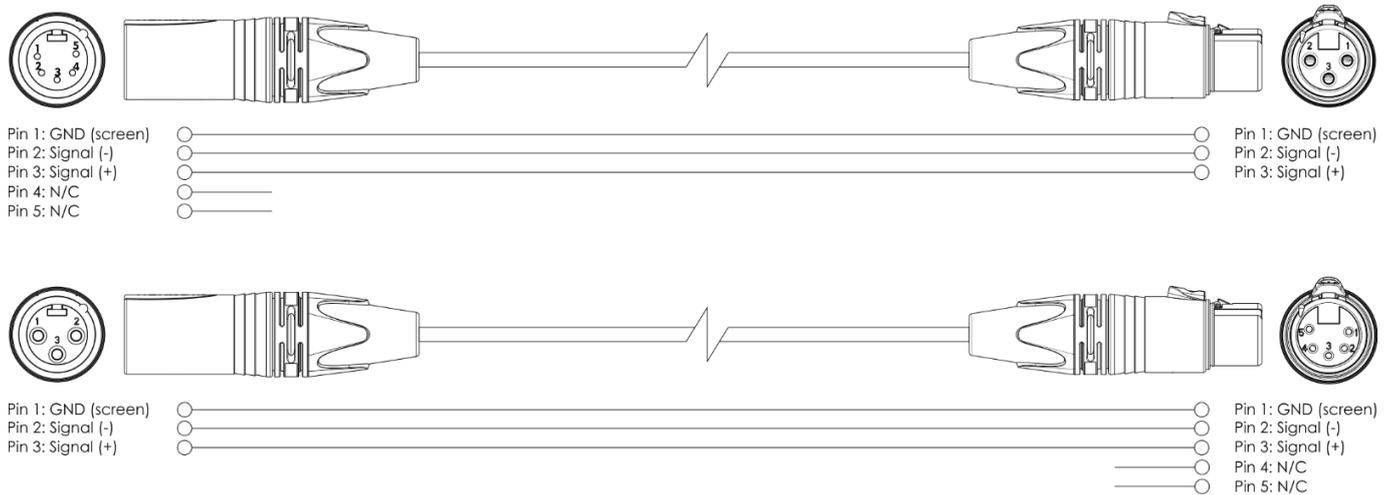

Fig. 07
- 01) Turn the **adjustment screws (08)** counterclockwise to release them.
- 02) Tilt the device at the desired angle (see Fig. 07).
- 03) Turn the **adjustment screws (08)** clockwise to tighten them. Make sure that the device cannot move freely after the **adjustment screws (08)** are tightened.